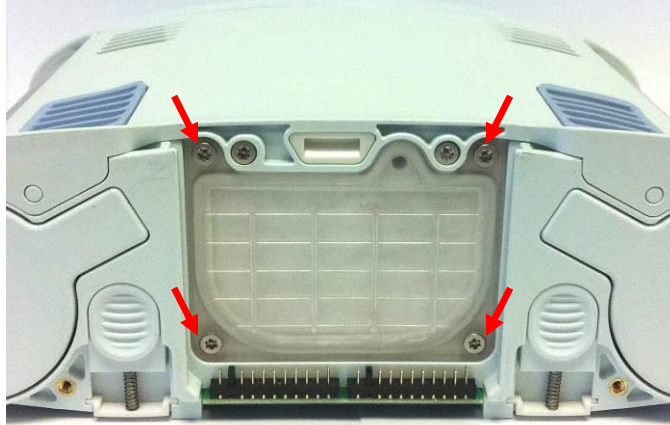

Figure 2: Filter box lid screws
2. Place the device on its back and remove the four screws connecting the filter box lid to the device (Figure 2).
1. Insert the new filter into the allotted space on the chassis and re-install the four screws that connect it (Figure 2). Tighten screws to 4.5 in-lbs.